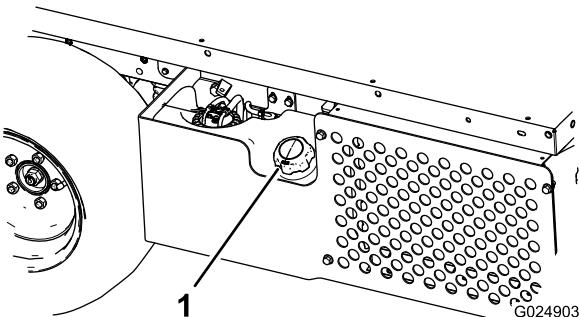

Figure 13
2. Remove the fuel tank cap (Figure 13).